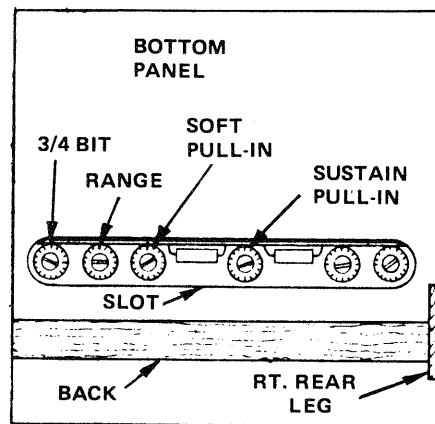

FIGURE 9-32 Pull-in Control location.
O. If the Solenoid is noisy (causes the Damper Lifter Rod to slam), the SUSTAIN Solenoid is pushing too hard against the SUSTAIN Pedal. To eliminate this problem, try turning the SUSTAIN Pull-in Control (see FIGURE 9-32) SLOWLY COUNTER-CLOCKWISE until the noise stops. See the NOTE below.